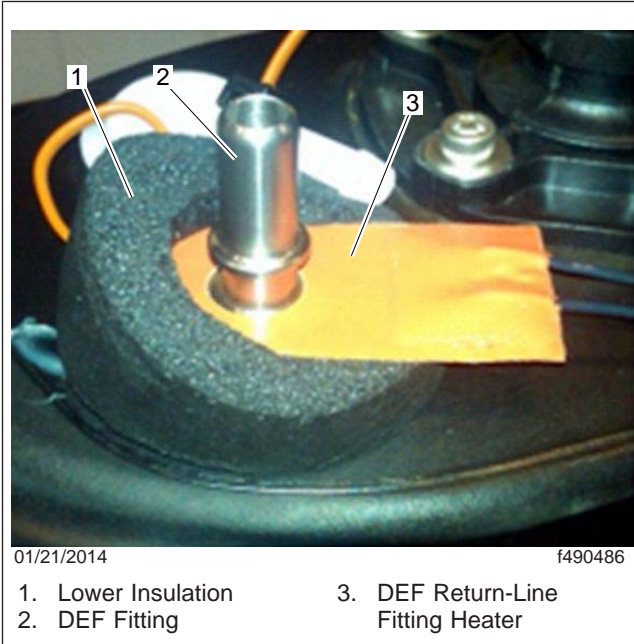

Fig. 2, Installing the Heater
7. Install the lower piece of the insulation with the short edge of the angle-cut side facing the DEF line. See Fig. 2.
8. Peel the tape off of the the return-line fitting heater then put it over the fitting and press it to stick on the DEF fitting. See Fig. 2.